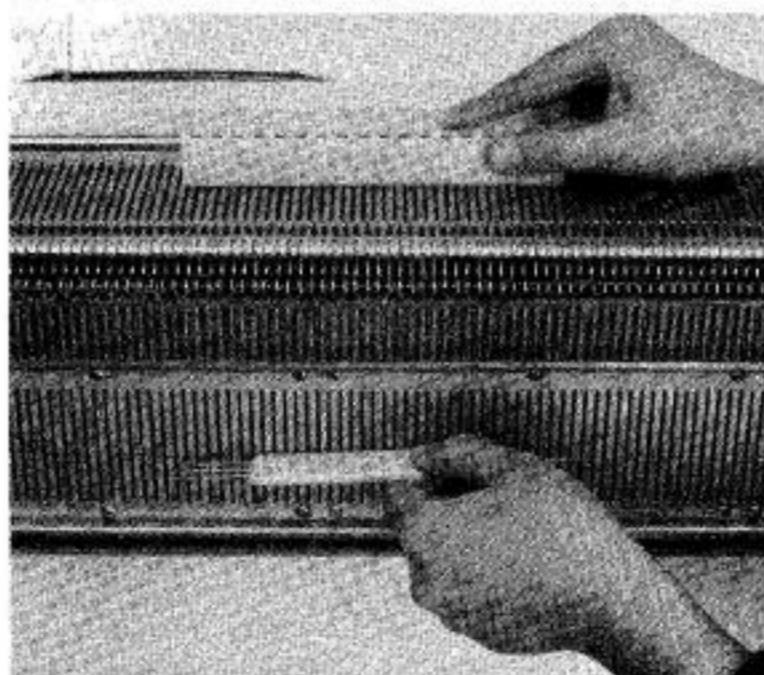

Fig. 38
5. Using the straight edge of the selector plate, push back into Position (B) all working needles on the machine and, at the same time, push down into Position (B) all working needles on the ribber—see Fig. 38—using for this purpose the handle of a transfer tool.
4. Using the straight edge of the selector plate, push back into Position (B) all working needles on the machine and, at the same time, push down into Position (B) all working needles on the ribber, using the handle of a transfer tool. (Fig. 38)